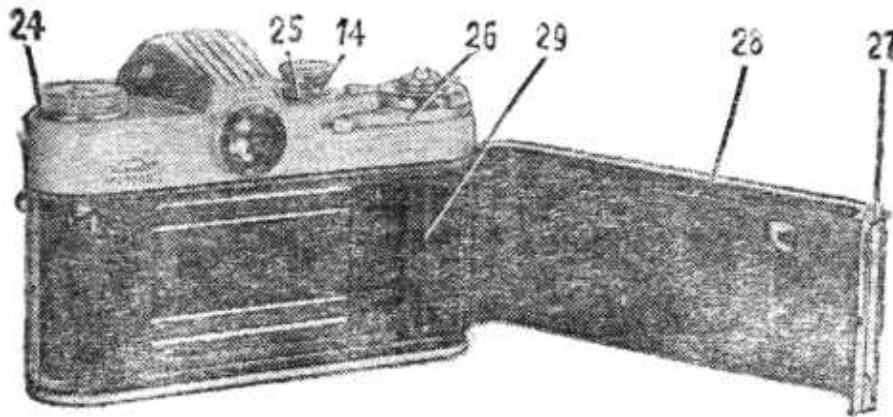

Fig. 3.
When shooting with a reusable electronic flash, it is necessary to take into account that its inertia is practically equal to zero. Therefore when working with this flash type the flash synchronization handle 14 needs to be set at the lightning sign (fig. 3).
1. Cock the shutter by fully turning the film advance lever 26 (fig. 3).